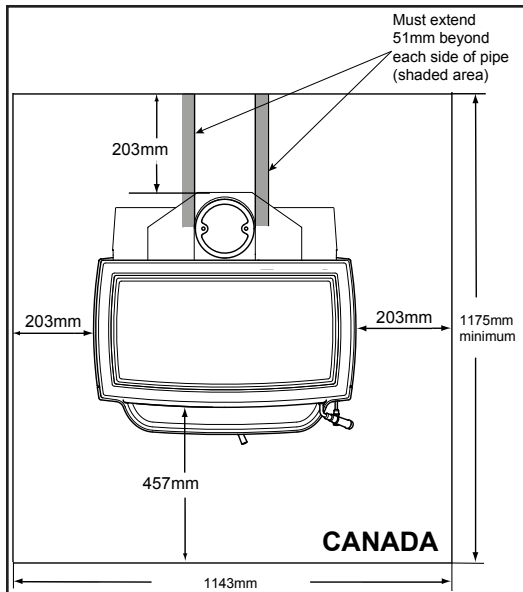

Figure 8.2
In Canada, It is required to install ember protection of 18 inches (457mm) in front and 8 inches (203mm) from the sides and rear of the appliance. **Figure 8.2**
***EXCEPTION:** Non-combustible floor protections must extend beneath the flue pipe when installed with horizontal venting and extend 2 inches (51mm) beyond each side. **See Figure 8.2**